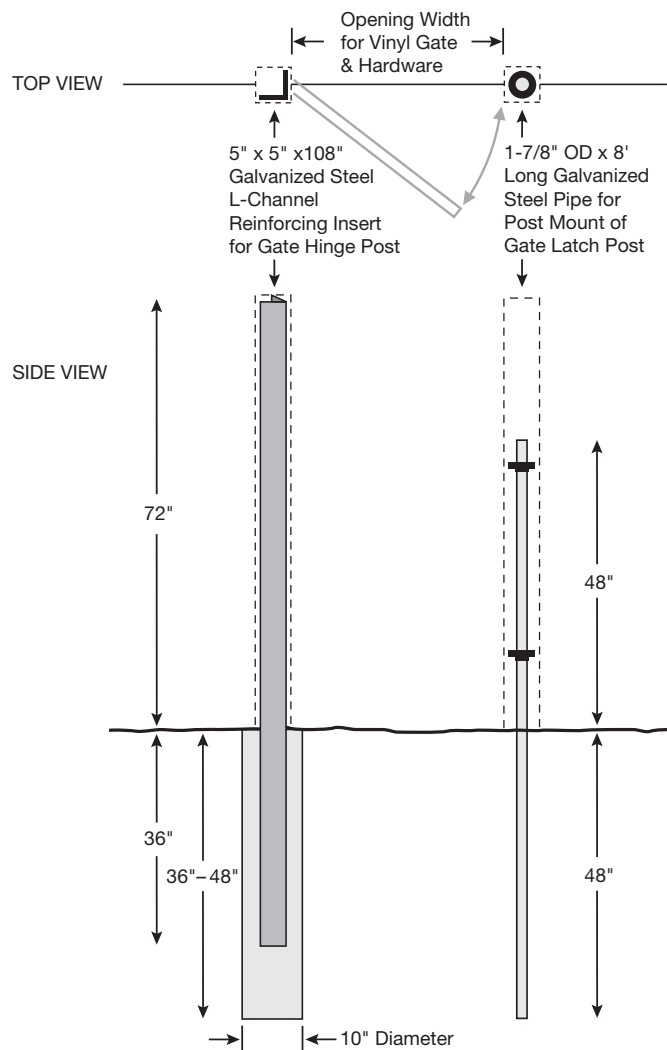

Figure 3
**Gate Hinge Post Installation.** It is recommended that "Gate Hinge Posts" are not installed by Post Mounting. Rather, the recommended procedure is to cement a 5" x 5" x 108" Galvanized Steel L-Channel Reinforcing Insert 36" into a traditional "Dug and Poured" concrete pile. Once the concrete is cured, the 5" x 5" Vinyl Hinge post is sleeved over top the L-Channel Reinforcing Insert. This procedure provides added strength for supporting the static and dynamic weight of the gate panel as well as provides a solid backing hinge screws (Fig. 3). Refer to Section 10 Gate Installation.